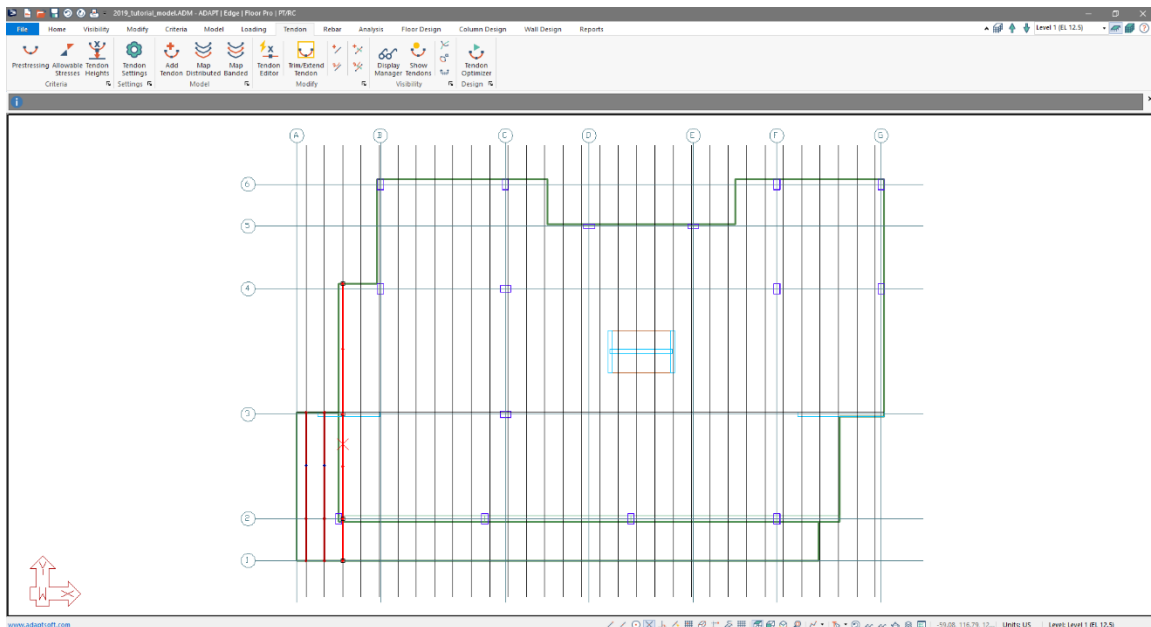

Figure 9-64
- Click on the *Top View*  icon in the **Bottom Quick Access Toolbar**. This will bring you to the view of the model shown in **FIGURE 9-64**.